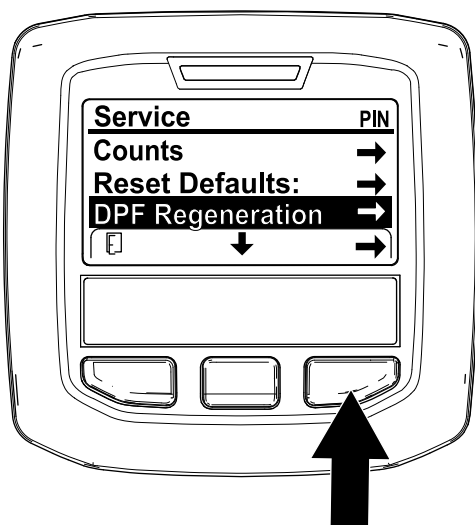

Figure 40
- Access the Service menu, press the center button to scroll down to the DPF REGENERATION option (Figure 40).
- Press the right button to select the DPF Regeneration entry (Figure 40).